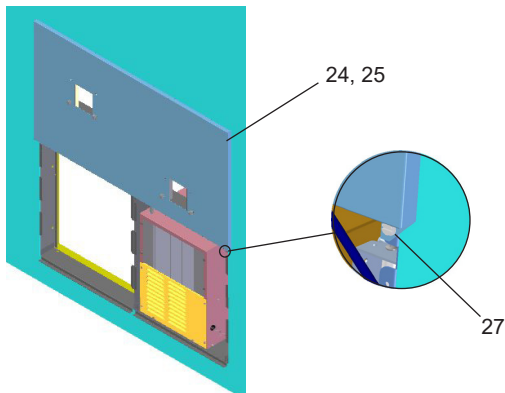

Figure 4 - Upper Panel Installation
- 5. Hang** the upper panel on the mounting frame hanger. Be sure that the panel is engaged with hanger at the top of frame before releasing it. Align holes in the panel with holes in the mounting frame. Install two (2) #10-24 x 5/8" (16mm) screws (Item 27 - Figure 4) in holes and tighten securely.
14. **Check stream height from bubbler.** Stream height is factory set at 35-40 PSI. If supply pressure varies greatly from this, please do the following. For **Push Button units only**, remove push button (Item 14 - Figure 12) and adjust the screw on the regulator (Item 15 - Figure 12). To remove push button, remove set screw from bottom of sleeve (Item 31). Insert a small punch in screw hole and push up while grasping the push button and pull forward removing the push button. Clockwise adjustment will raise stream height and counterclockwise movement will lower stream height. For best adjustment stream should hit basin approximately 6-1/2" from the bubbler. Reassemble push button by pushing in on button until the push button catches in the sleeve. Reinstall the set screw (Item 31) in the sleeve (Item 12). For **Electronic sensor units only**, remove lower panel (Item 26 - Fig. 4) and turn adjustment screw on the regulator (Item 16 - Fig. 8). Clockwise adjustment will raise stream height and counterclockwise movement will lower stream height. For best adjustment stream should hit basin approximately 6-1/2" from the bubbler.